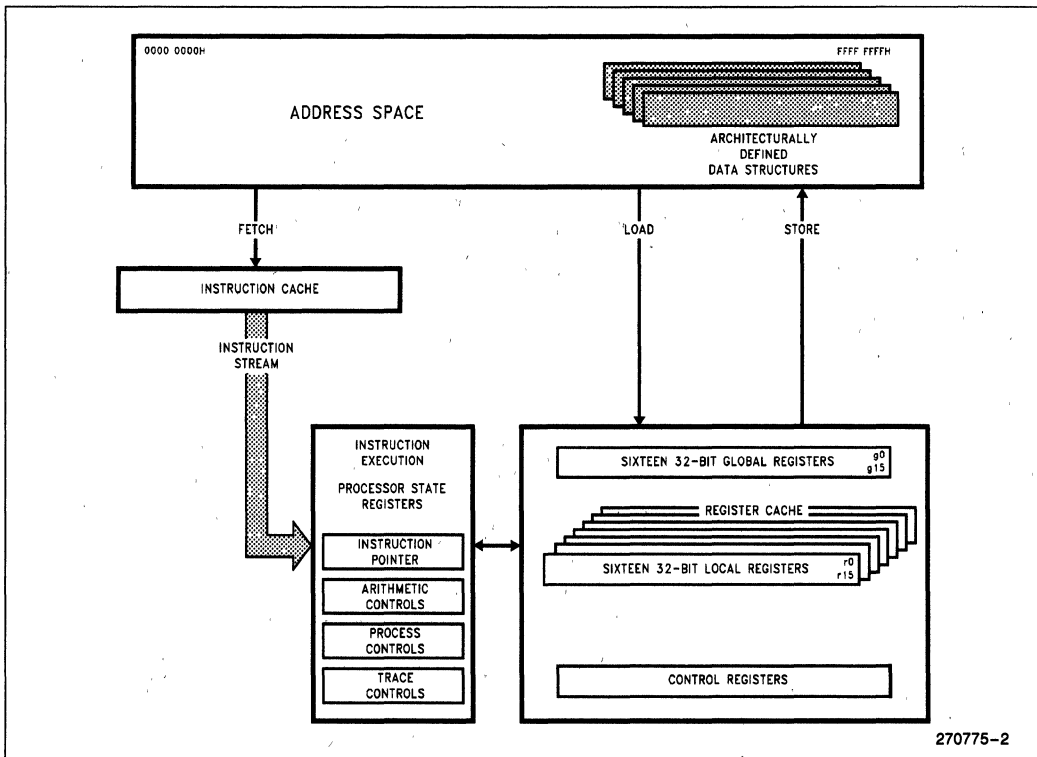

Figure 2. 80960KA Programming Environment
- 1. Large Register Set.** Having a large number of registers reduces the number of times that a processor needs to access memory. Modern compilers can take advantage of this feature to optimize execution speed. For maximum flexibility, the 80960KA provides thirty-two 32-bit registers. (See Figure 2.)